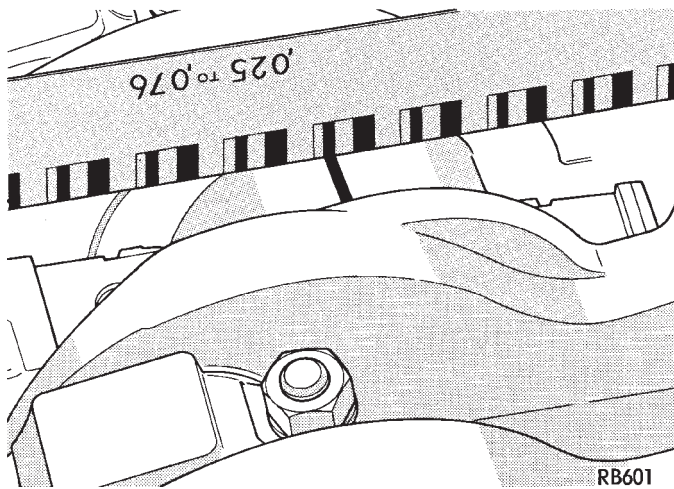

Fig. 13 Checking Connecting Rod Bearing Clearance
(1) Follow the procedures outlined in the Standard Service Procedures Section for Measuring Main Bearing and Connecting Rod Bearing Clearances. (Fig. 13). Refer to (Fig. 15) for specifications.
- (2) Tighten nuts to 52 N·m (38 ft. lbs.).
- (3) Remove connecting rod cap and measure Plastigage (Fig. 13).